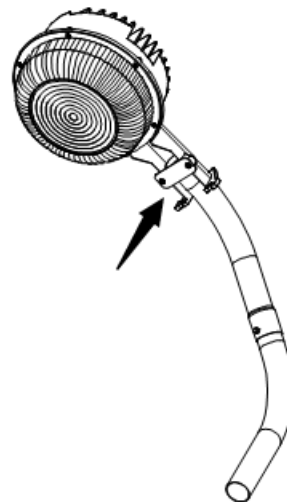

FIG.6
4. Insert the arm into the U-slot of the fixture, then secure the arm with the hex screws. (FIG.6)